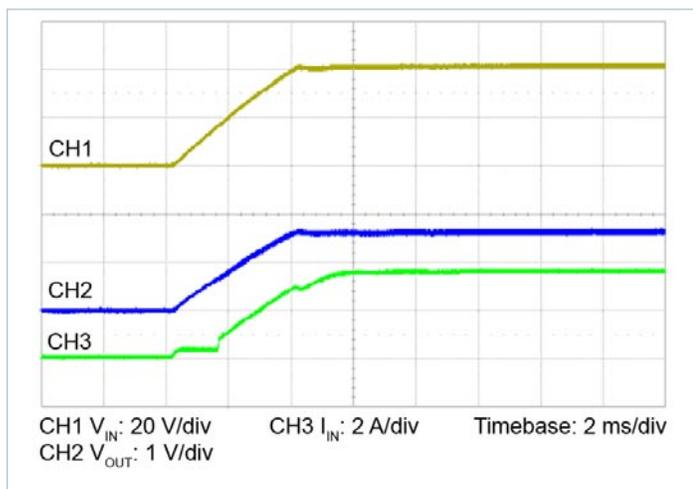

Figure 12 — Start up from application of V_{IN} ; V_{CC} pre-applied $C_{OUT} = 3000 \mu\text{F}$
- **Normal start up operation (VCC applied prior to Input voltage):** In this case the controller is active prior to ramping the input voltage. In this mode of operation, EN signal and CM signal appear when VCC crosses its under-voltage point. TM signal appearance is delayed by about T_{ON} time from EN signal. CM signal goes to 0 V when TM signal appears with no input voltage applied. It is recommended to apply the input voltage after TM signal appearance. When the input voltage is applied, the VTM module output voltage will track the input (See Figure 12). The inrush current is determined by the input voltage rate of rise, input and output capacitance. If the VCC voltage is removed prior to the input reaching 0 V, the VTM may shut down. This mode of operation is recommended when this VTM operates with upstream regulator such as PRM. Timing diagram shows the power up sequence for such mode of operation.